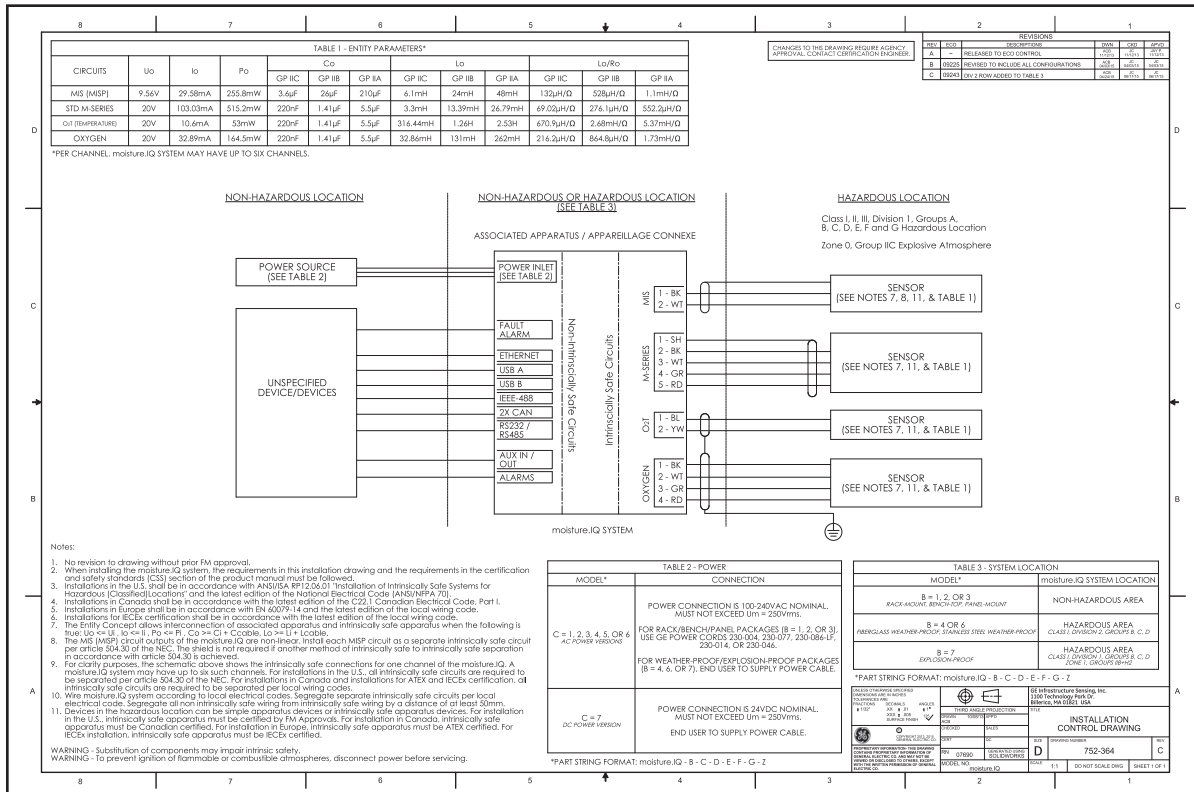
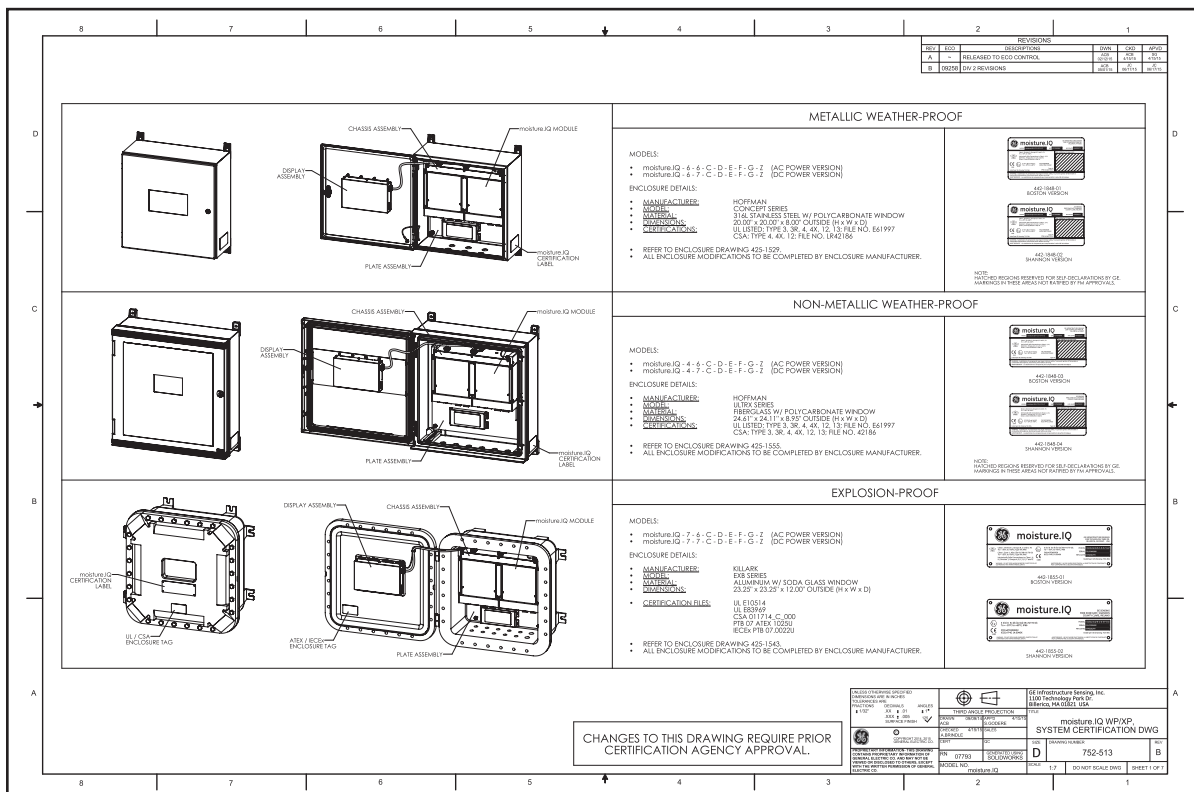
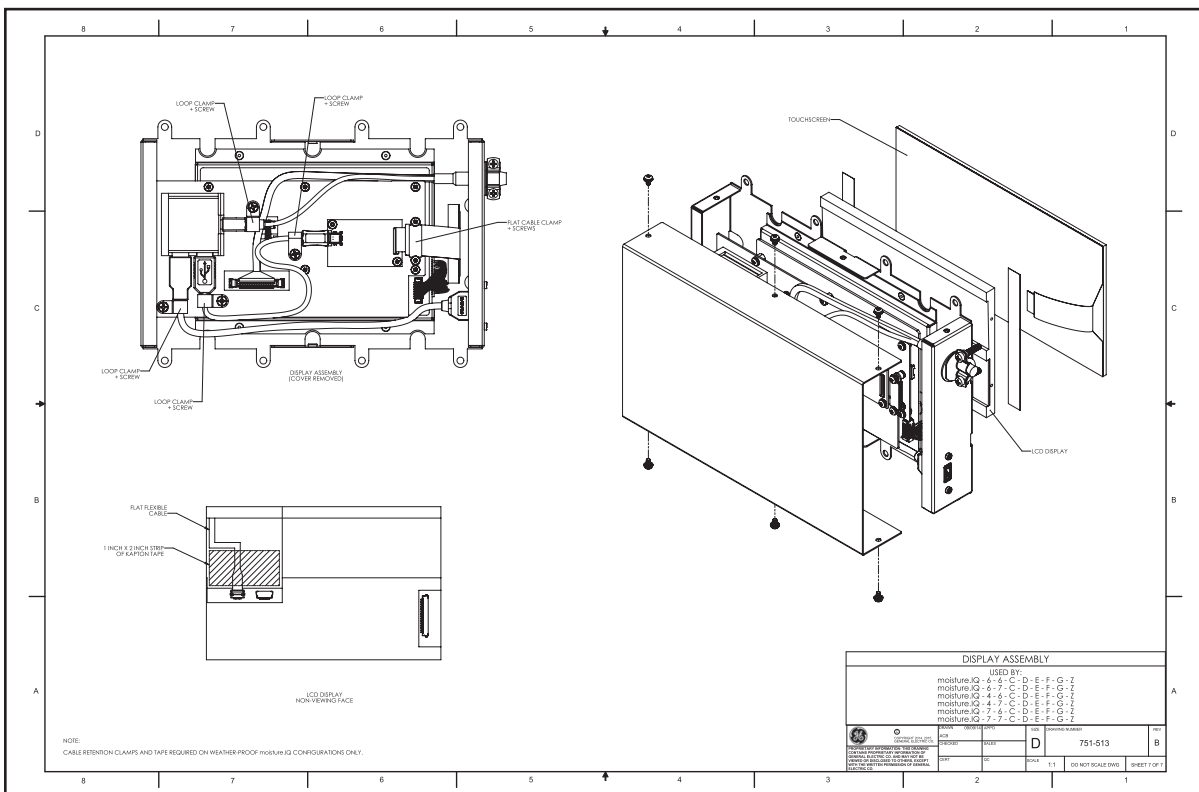

Figure 1: Installation Control Drawing (ref. dwg. 752-364\_C, SH 1 of 1)
Figure 2: WP/XP System Certification Drawing (ref. dwg. 752-513\_B, SH 1 of 7)
Figure 8: Display Assembly (ref. dwg. 752-513\_B, SH 7 of 7)
- The installation should comply with controlled drawing 752-364 (see *Figure 1 on page 2*) and drawing 752-513 Sheets 1-7 (see *Figure 2 on page 2 through Figure 8 on page 5*).